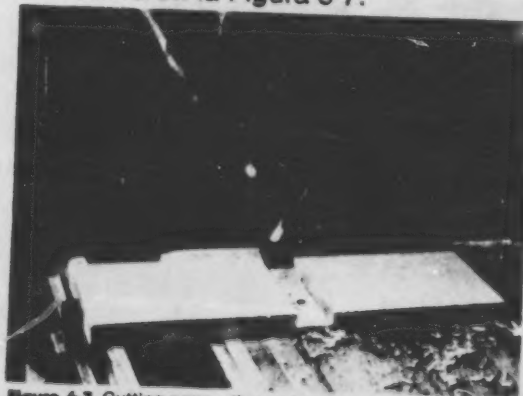

Figure 6-7 Cutting across the grain
- b. Use both hands to hold the chisel while pushing its cutting edge through the workpiece. Place one hand on the chisel's handle, and your other hand on the blade as shown in Figure 6-7.